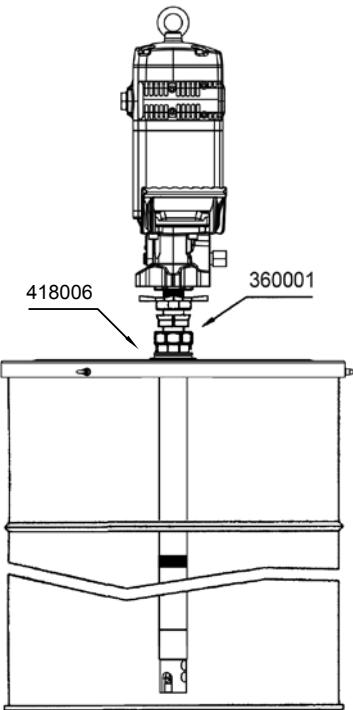

Fig. 2
- Mounting with cover (418006 for 185 kg drum) and bung adaptor 360001. Fasten the cover onto the drum and screw the nut of the bung adaptor securely into the 2" bung opening of the cover. Insert the pump through the nut and adjust it with the star nut to the desired height (see figure 2).